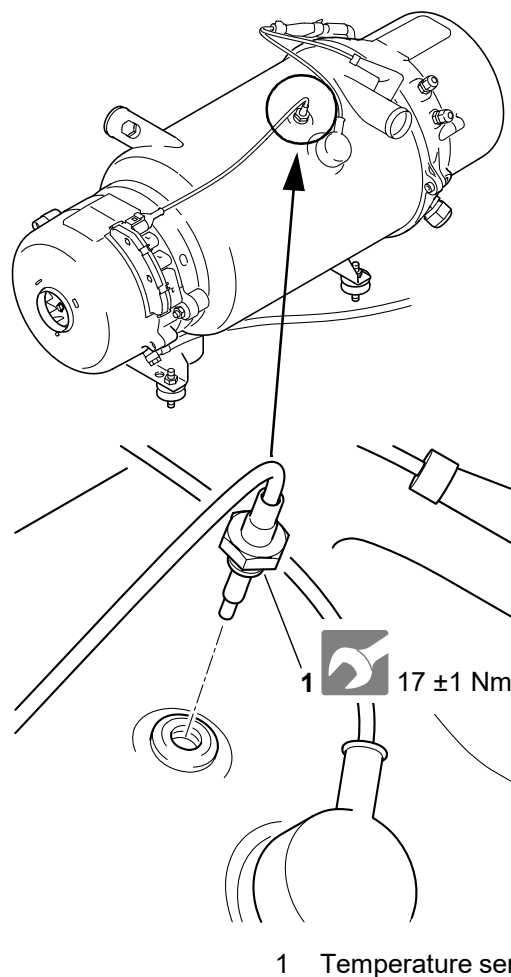

Fig. 810 Temperature sensor removal and installation
3. Unscrew and remove temperature sensor (1, Fig. 810).
1. Manually screw temperature sensor (1, Fig. 810) into the heat exchanger.
2. Tighten temperature sensor (1).